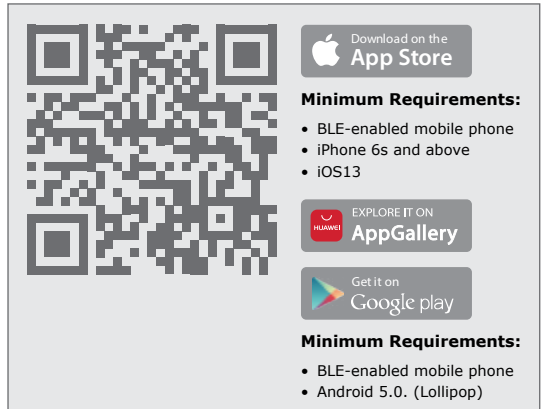

FIGURE 93
1. Scan the QR Code in Figure 93.